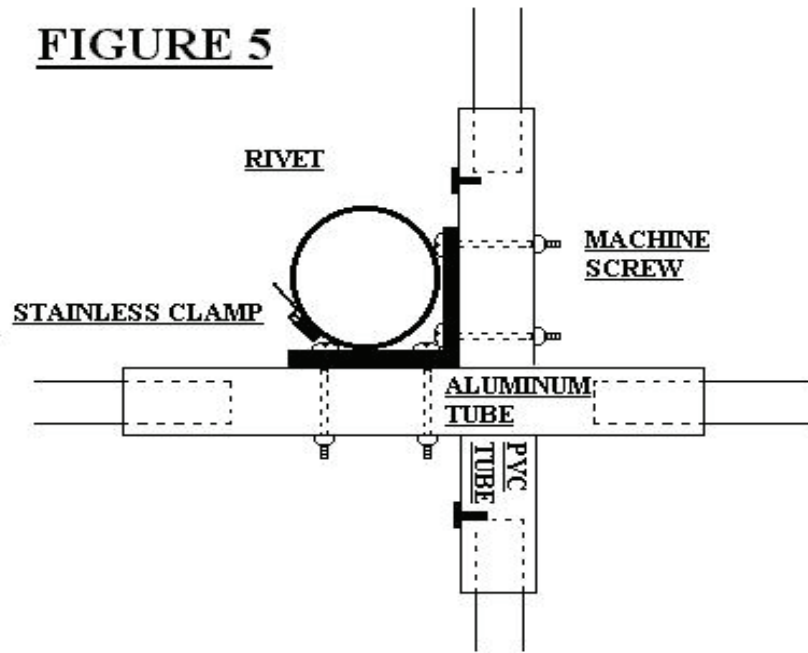

FIGURE 5
- A) Locate the 80" counterpoise rods. There are drill holes on both ends. Slide each rod into the Counterpoise bracket see figure 5 & 6. Make sure the rod with the yellow end cap slides into one side of the aluminum tube, not the PVC.